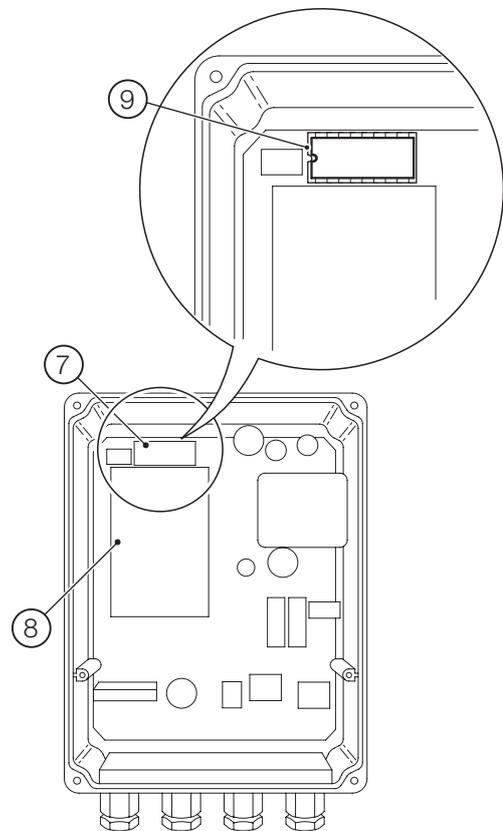

Figure 2 Replacing the EPROM – wall-mount transmitter
- 3 Referring to Figure 2:
- a Locate EPROM ⑦.
- b If required, remove personality module ⑧.
- d Using EPROM insertion tool, position replacement EPROM carefully in socket ensuring notches in EPROM and socket ⑨ are aligned and that EPROM pins locate correctly in the holes in the socket.
- f Refit personality module ⑧ (if removed at step 2).